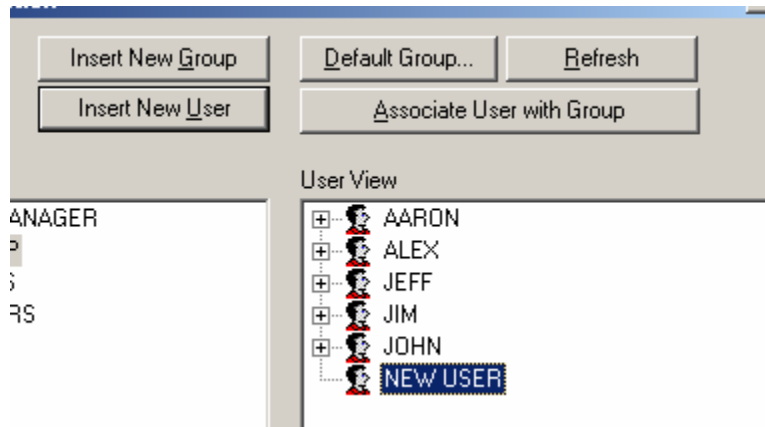

Figure 9.53. New User Added to User Tree
- This adds a new user under the **User View** tree. The name is highlighted, as shown in **Figure 9.53**. It is suggested that you change the name at this point before further editing.